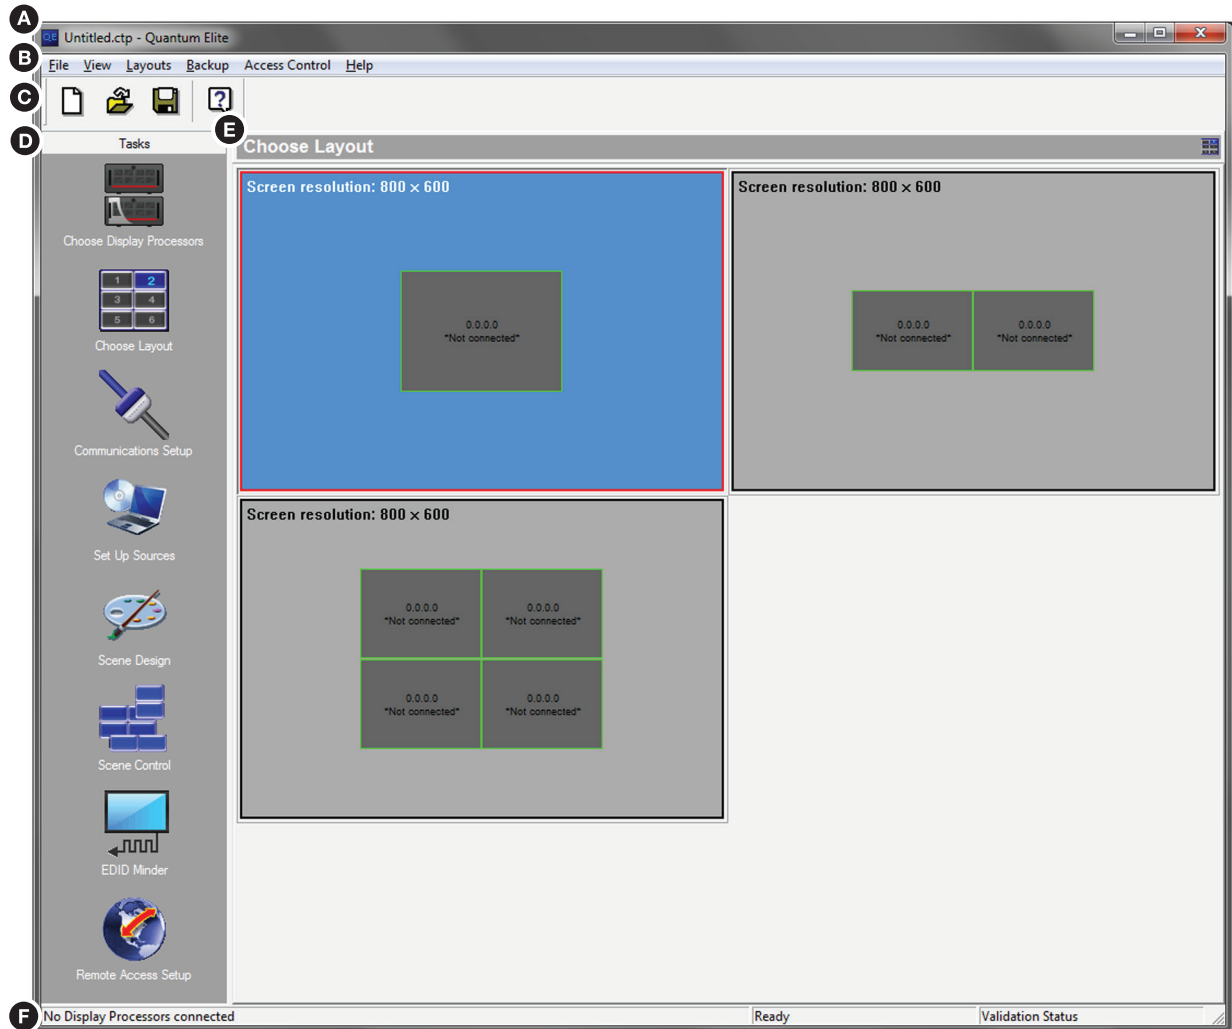

Figure 2. Elements of the Main Application Window
When you run the Quantum Control Software for the first time after installation, a new untitled project (presentation) is created with no system configuration settings (see figure 2 on the previous page).
1. Click the **Choose Display Processors** button in the taskbar (see figure 2, **D**, on page 8).